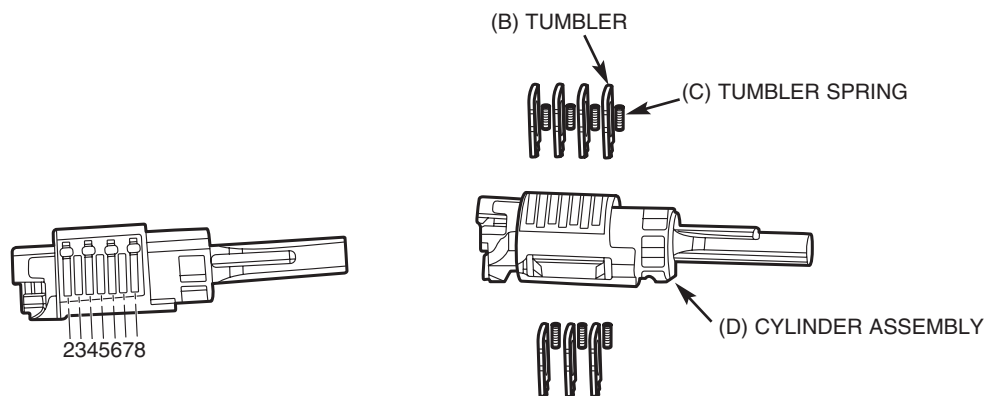

FIGURE 3
3. Insert one tumbler spring (C) into each of the holes located at the end of the tumbler wards on the lock cylinder (D).
4. Insert the required tumblers (B1, B2, B3, B4, or B5) into the tumbler wards in the proper orientation (refer to Figure 3), and in the sequence that match the key cut depths, for key stations 2, 3, 4, 5, 6, 7, and 8.